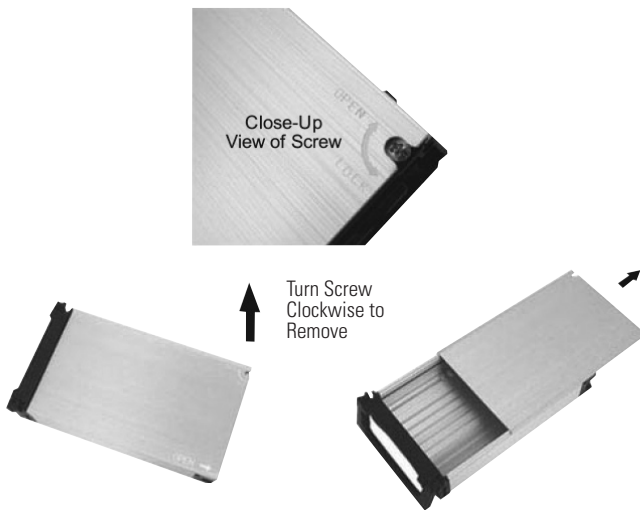

Figure 3: Cover Removal
1. Remove cover from the carrier by turning screw clockwise. Slide the cover off carrier (Figure 3).